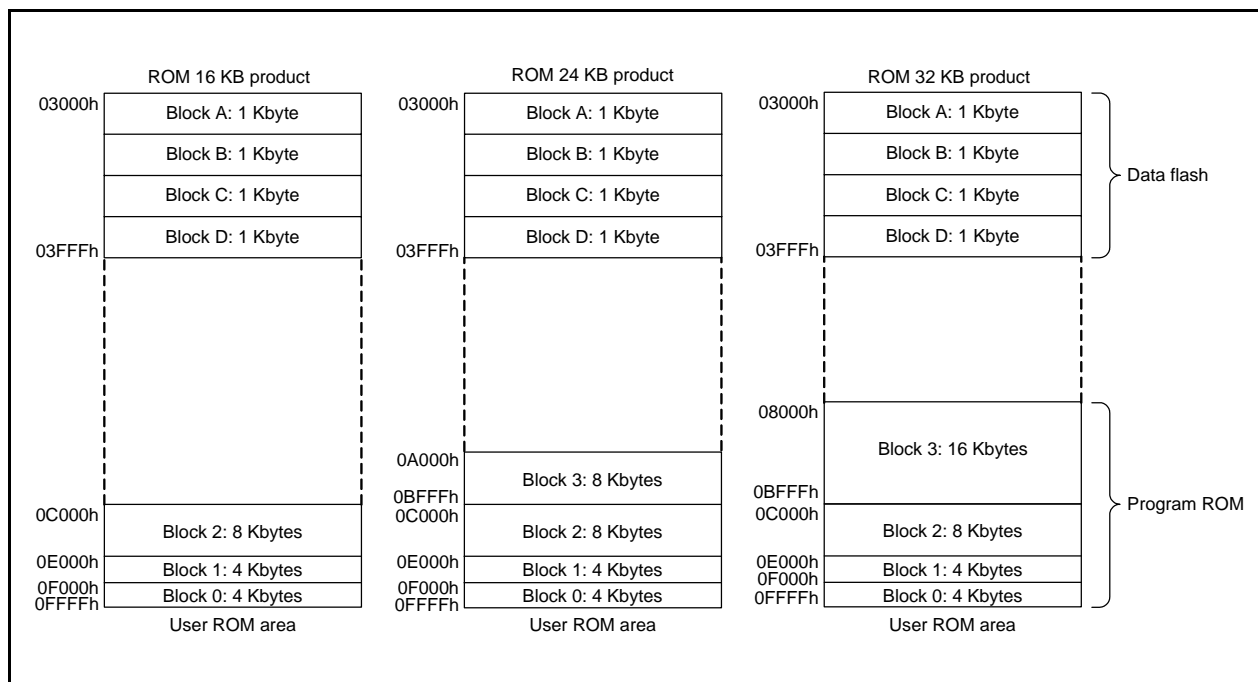

Figure 31.1 R8C/34C Group Flash Memory Block Diagram
- The number of blocks and block division vary with the MCU. Refer to **Figure 31.1 R8C/34C Group Flash Memory Block Diagram** for details.
Figure 31.1 shows the R8C/34C Group Flash Memory Block Diagram.